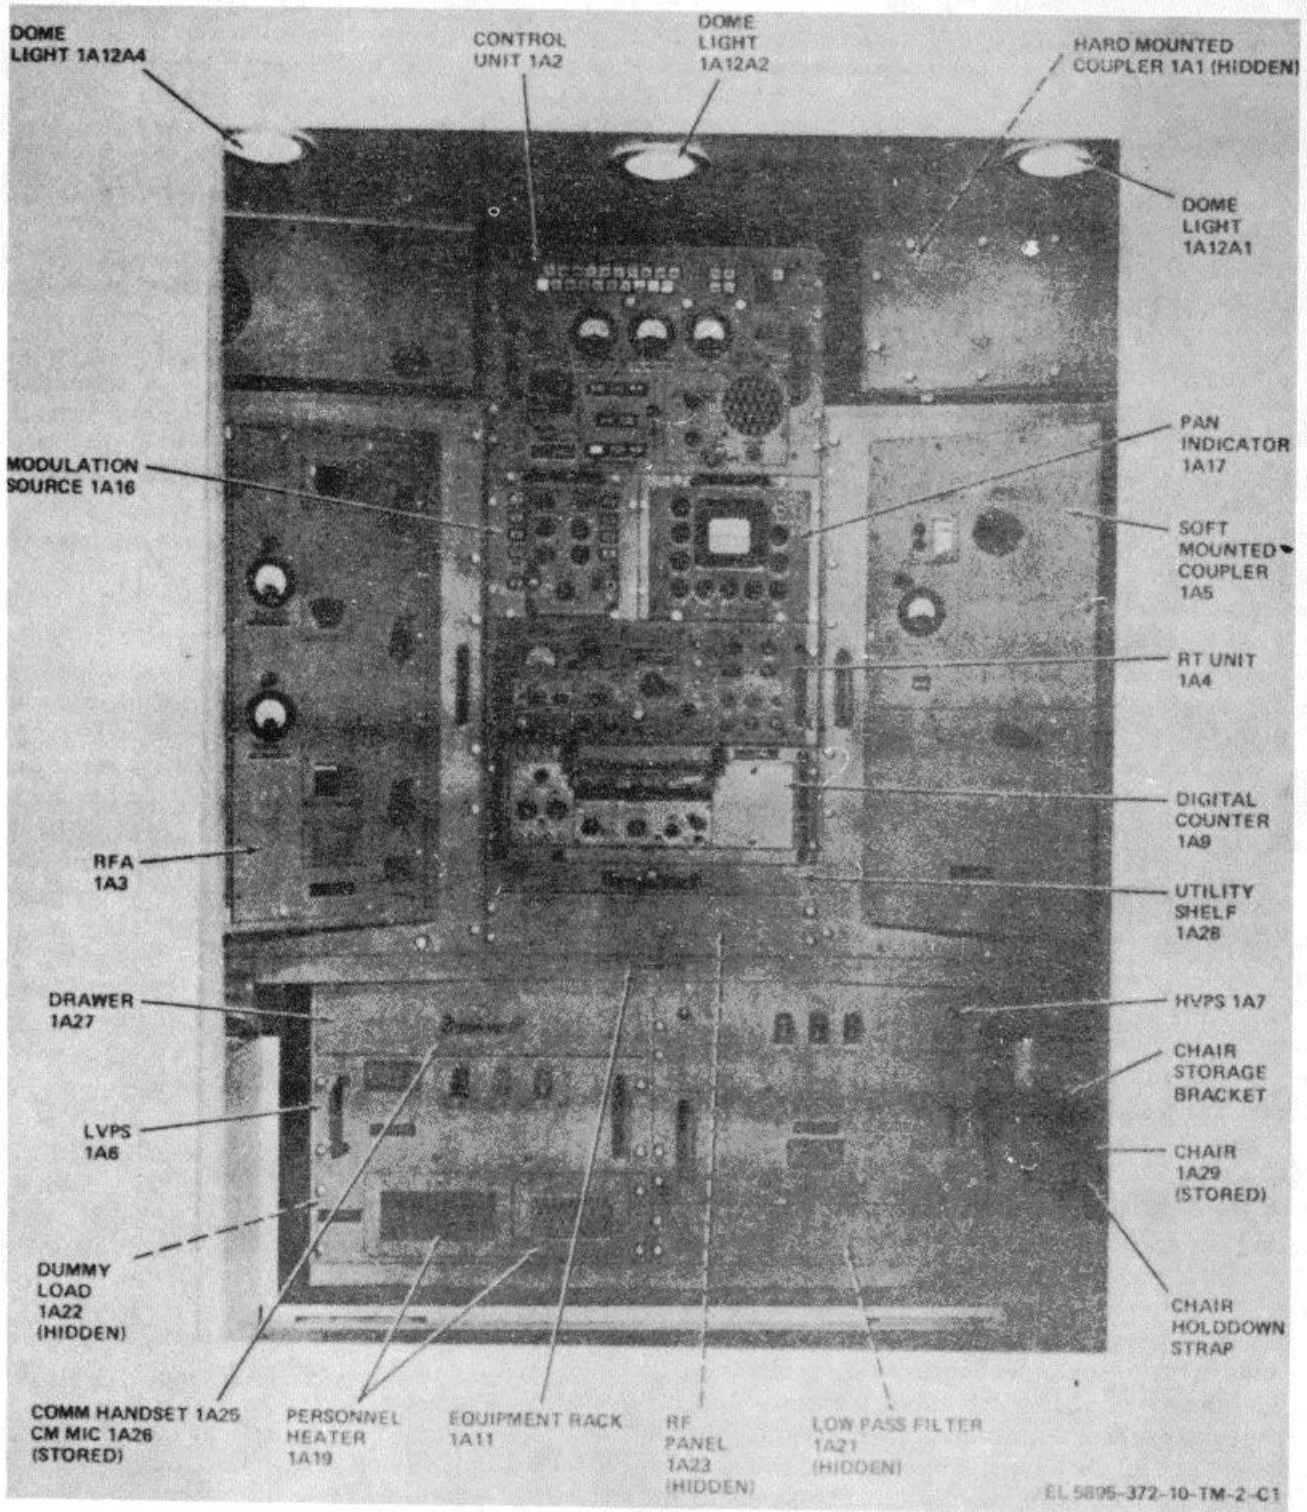
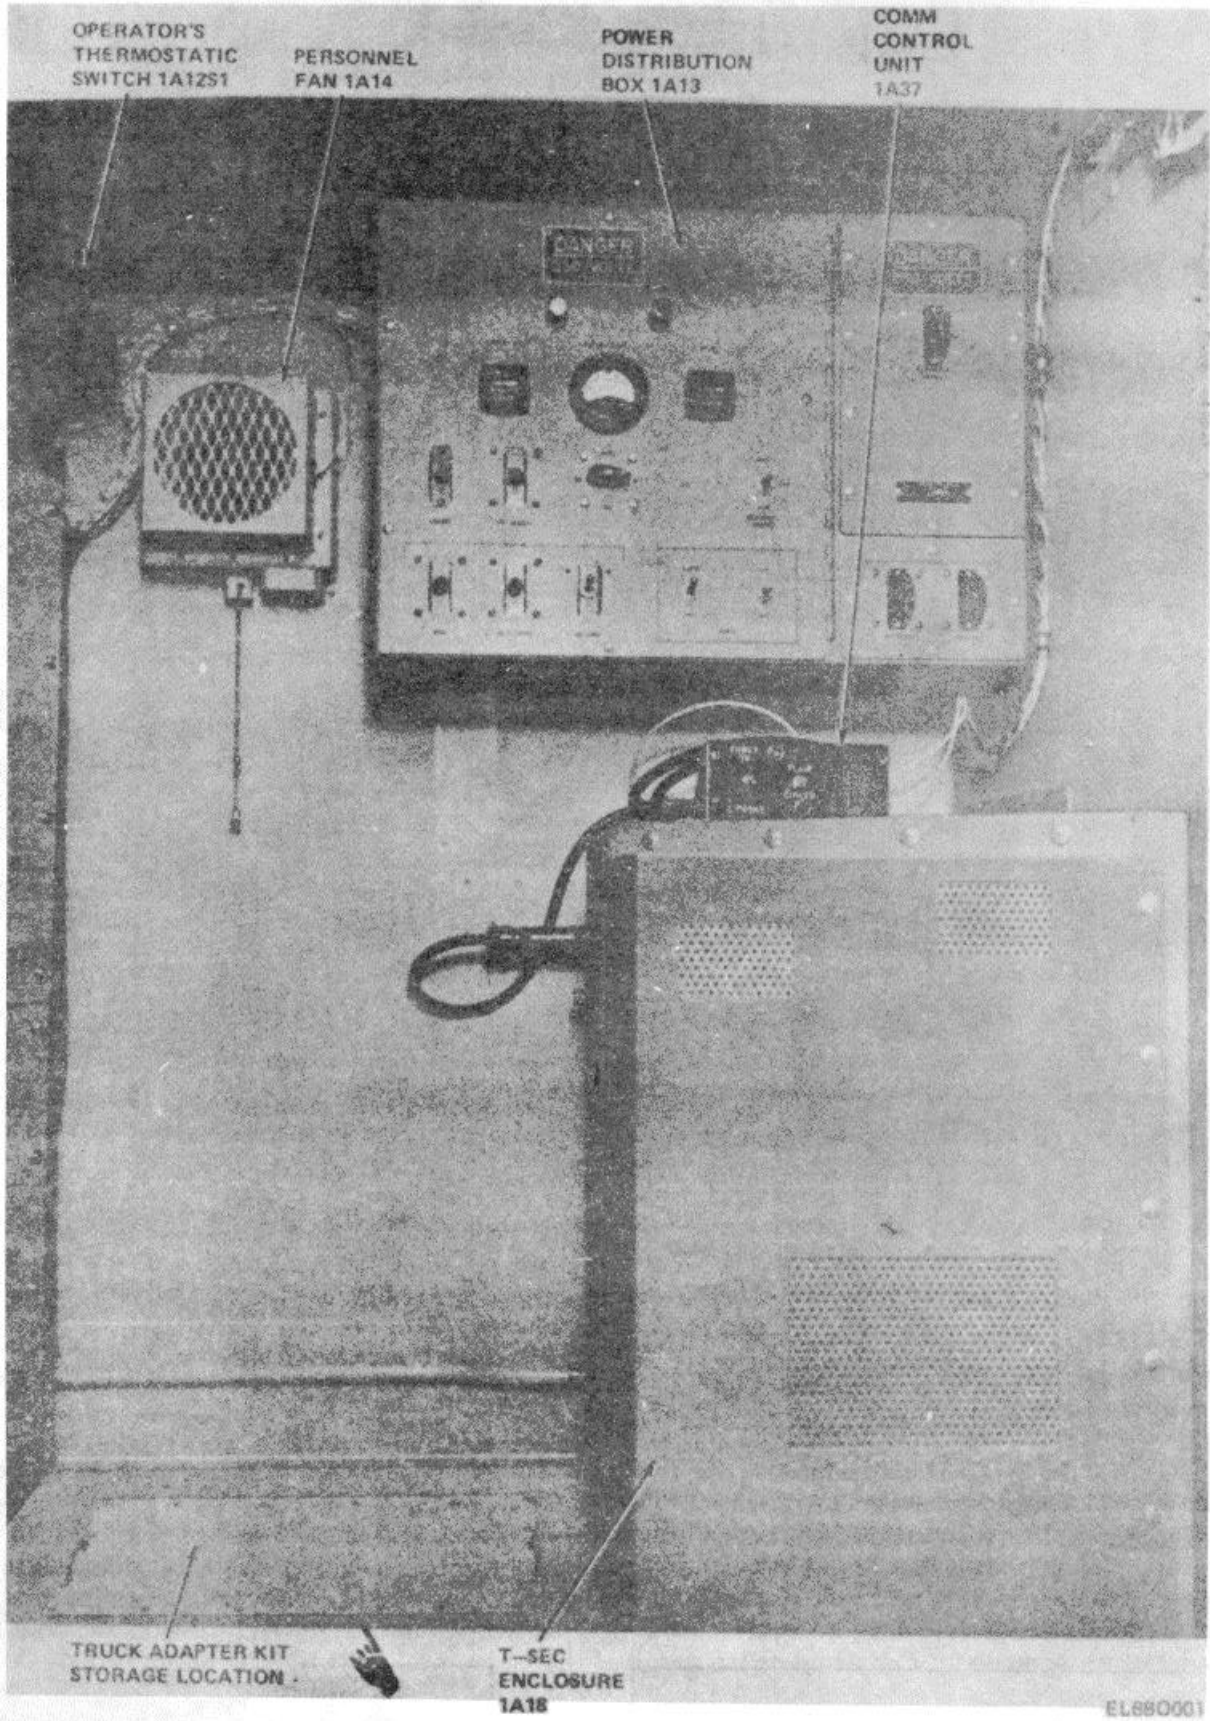
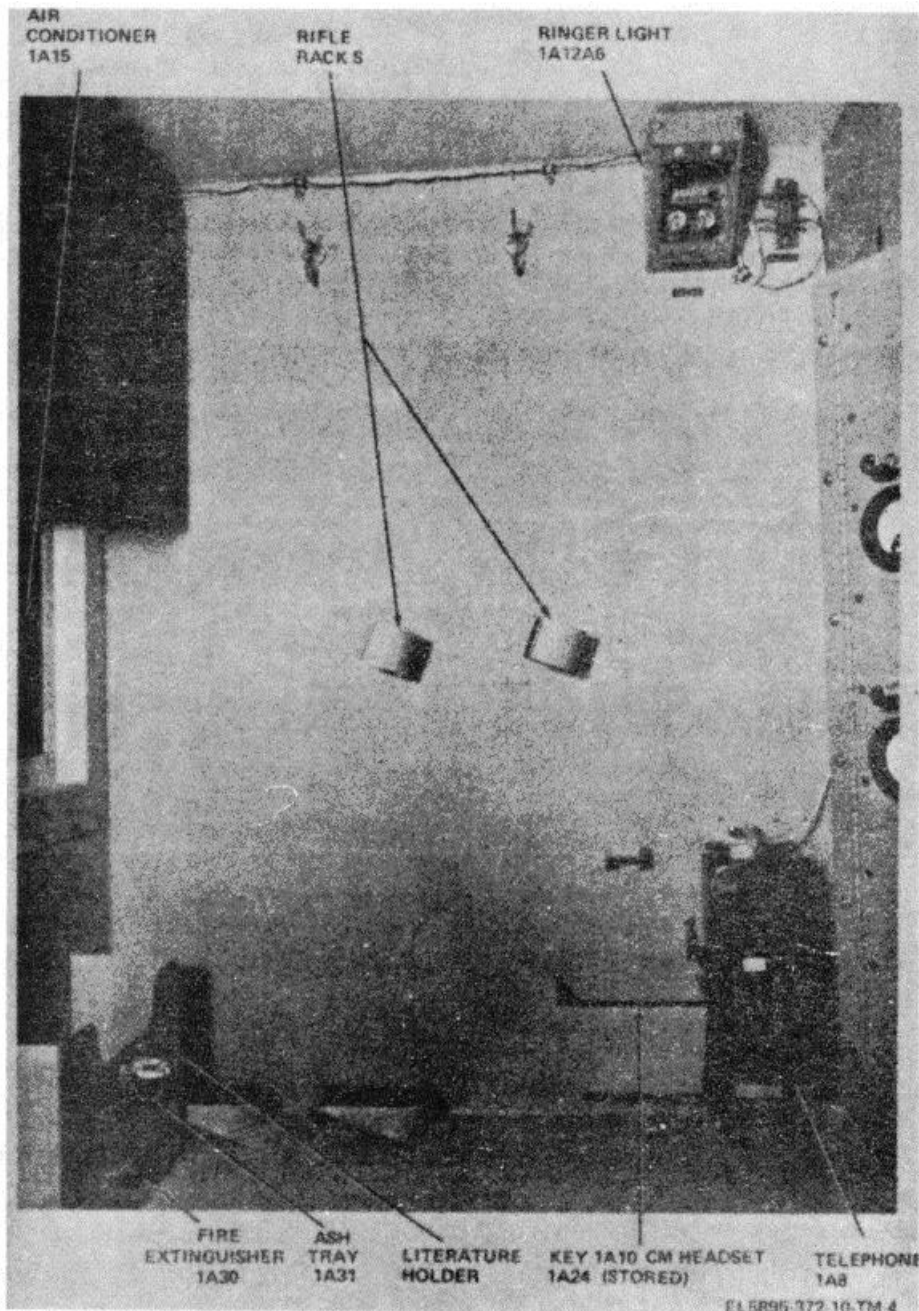

Figure 1-2. Operator's Compartment, forward view.
Figure 1-3. Operator's compartment, curbside view.
Figure 1-4. Operator's compartment, roadside view
operator's compartment which are isolated thermally; the equipment compartment is not accessible to the operator. The forward wall of the operator's compartment (fig. 1-2) consists of the equipment rack with units installed plus other peripheral units mounted directly to the shelter. The curbside wall of the operator's compartment (fig. 1-3) mounts the power distribution box, t-sec enclosure, personnel fan, and operator's thermostatic switch; the operator's chair with storage bracket and holddown straps are also mounted on the curbside wall (fig. 1-2). The roadside wall of the operator's compartment (fig. 1-4) mounts the telephone, cm headset, key, fire extinguisher (on floor), ringer light, literature holder, ash tray, and two rifle racks. The rear wall of the operator's compartment mounts the entrance doors and the air-conditioner (fig. 1-4).
(1) *Equipment rack* (fig. 1-2). The equipment rack supports most of the AN/TLQ-15 units and is designed to accept slide-track mounted units and hard-mounted units which are interconnected by the shelter wiring harness. The equipment rack is shock-mounted and contains interlock switches which are actuated when a unit is withdrawn from its normally secured position. For operator convenience, the equipment rack also has a slide-track mounted utility shelf and storage drawer.
(2) *Soft and hard-mounted couplers* (fig. 1-2). The coupler is comprised of two major units. The removable unit (soft-mounted) is modular and slide-track mounted. Captive screws secure the unit in its operating position and bow handles are provided for withdrawing the unit for maintenance. Most of the smaller operating components and all of the controls and indicators are contained in the removable unit. Connectors on the rear panel mate with corresponding connectors located in the hard-mounted coupler and on the shelter wiring harness. The nonremovable unit (hard-mounted) contains relays, an antenna loading coil, and the antenna contact assembly.
(3) *Control unit* (fig. 1-2). The control unit is a modular, removable, slide-track mounted unit which is held in the equipment rack by captive screws. Two bow handles are provided for withdrawing the unit which can then be tilted on the slide tracks for ease of maintenance. All of the controls and indicators appear on the front panel and are illuminated where necessary. The front panel also contains a loudspeaker, a jack for use with the cm headset, and a jack for external audio
(4) *Rfa* (fig. 1-2). The *rfa* is a modular, removable, slide-track mounted unit held in the equipment rack by captive screws. Two bow handles are provided for withdrawing the unit for maintenance. A self-contained blower provides forced airflow through the unit. All controls and indicators appear on the front panel and are illuminated where necessary. Connectors on the rear panel mate with corresponding connectors on the shelter wiring harness.
(5) *Rt* unit (fig. 1-2). The *rt* unit is a modular, removable, slide-track mounted unit which is held in the equipment rack by captive screws. Two bow handles are provided for withdrawing the unit which can be tilted on the slide tracks for ease of maintenance. All controls and indicators appear on the front panel and are illuminated where necessary; the front panel also contains two telephone jacks. Connectors
(6) *Lvps (fig. 1-2)*. The lvps is a modular, removable, slide-track mounted unit which is held in the equipment rack by captive screws. Two bow handles are provided for withdrawing the unit for maintenance. Three circuit breakers are located on the front panel. Connectors on the rear panel mate with corresponding connectors on the shelter wiring harness.
(7) *Hvps (fig. 1-2)*. The hvps is a modular removable, slide-track mounted unit which is held in the equipment rack by captive screws. Two bow handles are provided for withdrawing the unit for maintenance. Three circuit breakers, located on the front panel, are the complete controls. Connectors on the rear panel mate with corresponding connectors on the shelter wiring harness.
(8) *Telephone (fig. 1-4)*. The telephone is located on the roadside wall of the shelter and is fully described in TM 11-5805-201-12.
(9) *Digital counter (fig. 1-2)*. The digital counter is adapted for slide-track mounting and held in place by captive screws. The front pane is equipped with two bow handles for withdrawing the unit for maintenance. Connectors on the rear panel mate with corresponding connector on the shelter wiring harness. The digits counter is further described in TM 11-6625 700-10.
(10) *Key (fig. 1-4)*. The key is located in the rack on the curbside of the shelter and is use for keying the modulation source when in cw operation.
(11) *Power distribution box: (fig. 1-3)*. The power distribution box is a hard-mounted unit on the curbside wall of the shelter. Part of its structure extends through the rear of the operator's compartment. The extended portion of the unit provides external connectors for ground, main power, and telephone cable connections.
(12) *Personnel fan (fig. 1-3)*. The personnel fan is located on the curbside wall of the shelter and provides ventilation for the operator's compartment.
(13) *Air conditioner (fig. 1-4)*. The air conditioner is mounted through the rear wall of the operator's compartment. The air conditioner provides cool, dehumidified air for operating personnel. The air conditioner may also be used to heat or ventilate the operator's compartment.
(14) *Modulation source (fig. 1-2)*. The modulation source is a modular, removable, slide track mounted unit which is mounted in the
(15) *Pan indicator (fig. 1-2)*. The pan indicator is a modular, removable, slide-track mounted unit which is mounted in the equipment rack by captive screws. The pan indicator shares a 19-inch width rack and is adjacent to the modulation source. The pan indicator is further described in TM 11-5895-503-15.
(16) *T-sec enclosure (fig. 1-3 and 1-5)*. The t-sec enclosure is an electrically shielded equipment cabinet enclosing encoder/decoder, a speaker, a secure comm mic amplifier, and the secure comm speaker amplifier. The t-sec enclosure and its contents provide secure-radio communications for the AN/TLQ-15. Part of its structure extends through the rear of the operator's compartment. The extended portion provides an external interconnection between the comm radio equipment in the shelter and the trailer.
(17) *Personnel heater (fig. 1-2)*. The personnel heater is mounted at floor level and is held in place with captive screws. The unit contains electric heating elements, a blower, and an airflow-operated switch.
(19) *Low pass filter (fig. 1-2)*. The low pass filter is rack-mounted at floor level and contains harmonic suppression filters. A 19-inch wide removable blank panel covers the filter.
(20) *Dummy load (fig. 1-2)*. The dummy load is rack-mounted and located behind the personnel heater. The dummy load is a modular unit with two handles, an RF connector, and a thermal protection switch located on the exterior.
(21) *Rf panel (fig. 1-2)*. The rf panel is rackmounted and contains rf components such as coaxial connectors, cables, detectors, and rf switching relays. Access to the components is obtained by removing the blank front panel.
(22) *Cm headset (fig. 1-4)*. The cm headset is stored in a rack on the roadside wall of the shelter. The cm headset can be used to monitor AN/TLQ-15 reception at the control unit or rt. unit.
(23) *Comm handset (fig. 1-2)*. The comm handset is used for two-way radio communications via the comm radio set. When not in use, the comm handset is stored in the equipment rack drawer.
(24) *Com mic (fig. 1-2)*. The cm mic is used for voice modulation source. When not in use, the mic is stored in the equipment rack drawer.
(26) *Comm control unit (fig. 1-3)*. The comm control unit controls the encoder/decoder in the t-sec enclosure for secure or unsecure communications.
adapter kit is stored in the operator's compartment on the curbside (fig. 1-3).